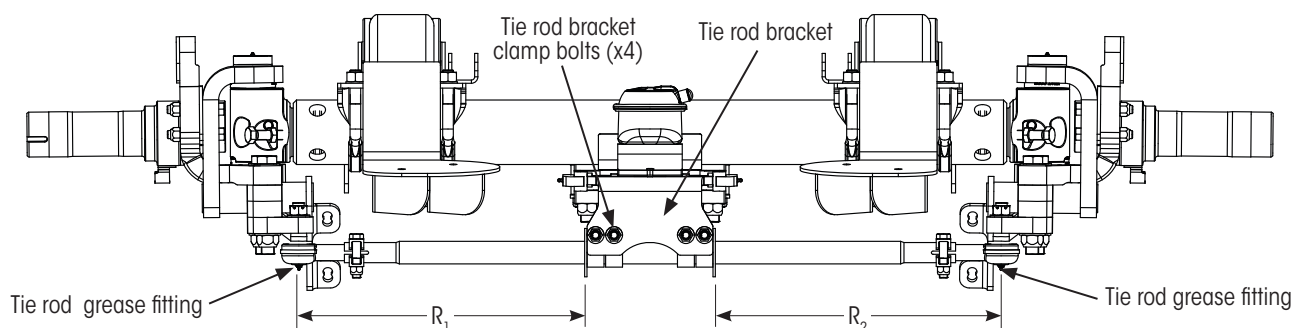
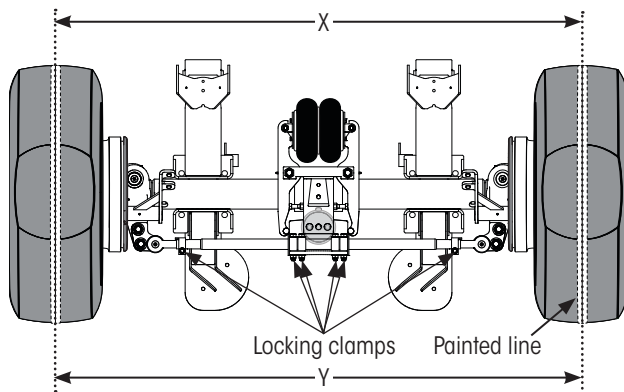

Figure 30: Tie rod end clamp orientation
Figure 31: Toe Measurements (bottom view)
- D. **Measure** to ensure, in Figure 30, $R1=R2\pm0.09$ inch (2.3 mm).
3. While rotating wheel, **paint** a line around the center of the tire tread, full circle (Figure 31).
10. **Loosen** all tie rod locking clamps Figure 31. Skip this step if already loose.
4. **Verify** $R1 = R2 \pm .09$ inches (± 2.3 mm) (FIGURE 31: TOE MEASUREMENTS (BOTTOM VIEW) on page 23). **Tighten** tie rod bracket clamp bolts (Figure 30) to 95 ± 5 ft. lbs. (130 ± 5 Nm) of torque.